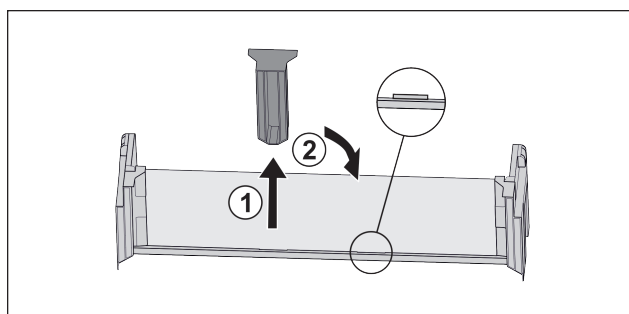

Fig. 118
- ▶ Pull off the middle holder Fig. 118 (1).
- ▶ Insert the middle holder in the second position Fig. 118 (2).